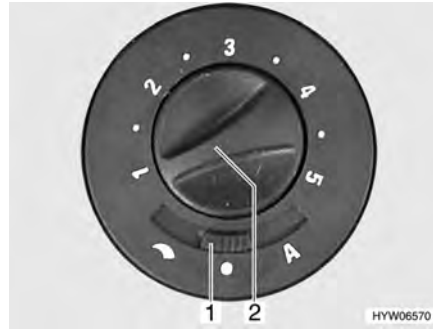

Fig. 118 Operating switch for circulation fan
- Set sliding switch (Fig. 118,1) to "☰" (manual control) or "A" (automatic operation).
- Turn the knob (Fig. 118,2) to set (manual control) or limit (automatic operation) the power of the circulation fan.
- Set sliding switch (Fig. 118,1) to "●" (off).